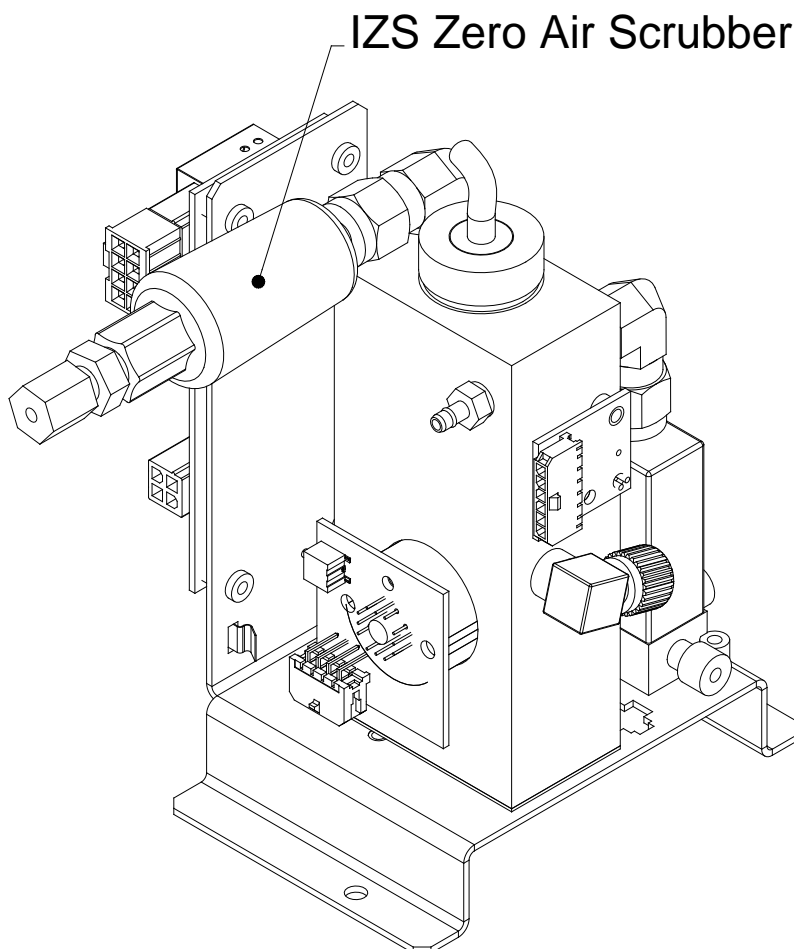

Figure 10-2 Replacing the IZS Zero Air Scrubber
3. Disconnect the white nylon  $\frac{1}{4}$ "- $\frac{1}{8}$ " fitting from the Zero Air Scrubber (See Figure 10-2).